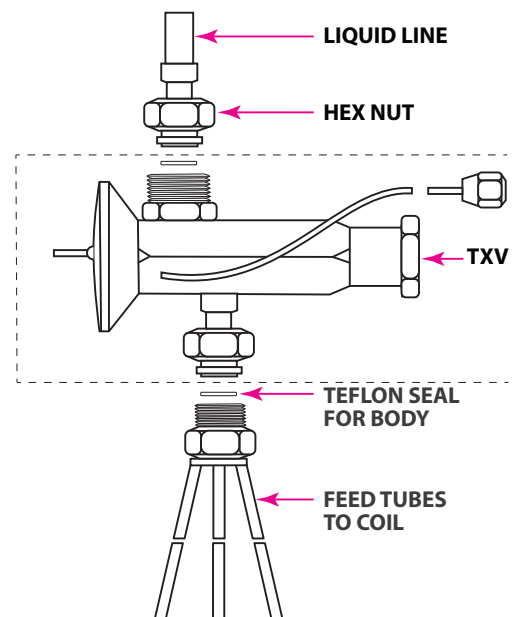

Figure 8: TXV Bulb Placement
5. As shown in Figure 8, the TXV assembly must be installed between the distributor and the liquid line connector.